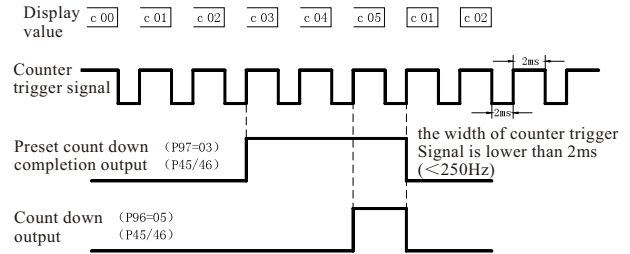

Fig. 6-30 CountDown Completion
- When count value starts at c01 and reaches the parameter set. The selected multi function output terminal will close. Preliminary count could be used to initiate an external event before the terminal count is reached. Before stop can choose this as output signal let the inverter low move till stop. See Fig. 6-30.